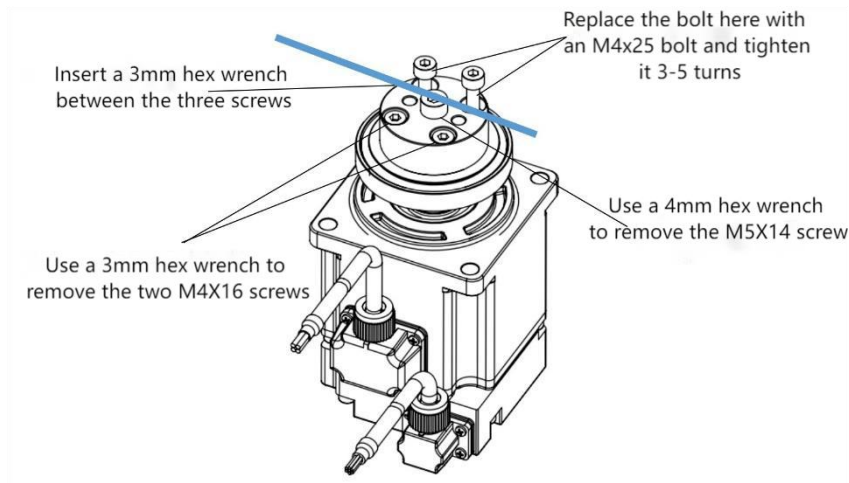

Figure 3-24 Removal of fixing screws of the reducer wave generator 2
Step 5 As shown in Figure 3-24, remove the remaining mounting screws from the wave generator. Two M4x25mm screws are then inserted into the previously removed two M4x16 screws, with a depth of 3-5 turns. Secure a 3mm hex key at the three screw positions. Hold the 3mm hex key and use another 3mm hex key to remove the remaining M4x16 screws. Finally, use a 4mm hex key to remove the M5x14 screw.